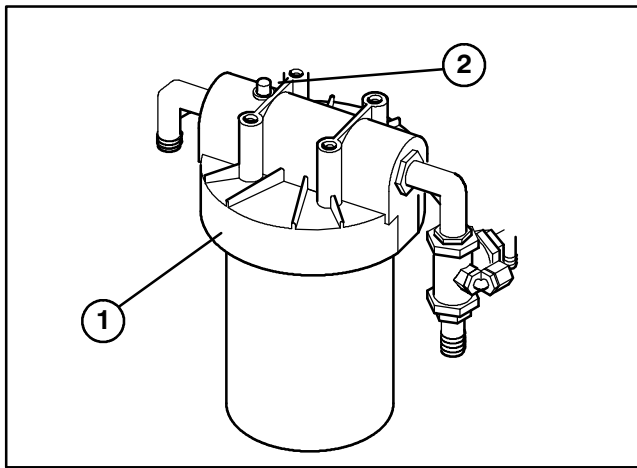

Figure 10
5. Reach under fuel tank and press bleed button on top of water filter head (Fig. 10). Hold bleed button down until all air is purged from filter and water comes out opening.